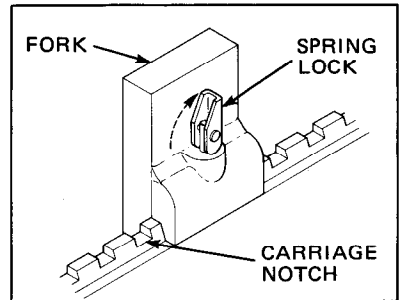

Figure 2 - Release the Spring Lock
1. Release the spring lock on the top of each fork by lifting the lever on the backside of the fork as shown in Figure 2.
1. Release the spring lock on the top of the fork by lifting the lever. See Figure 2.